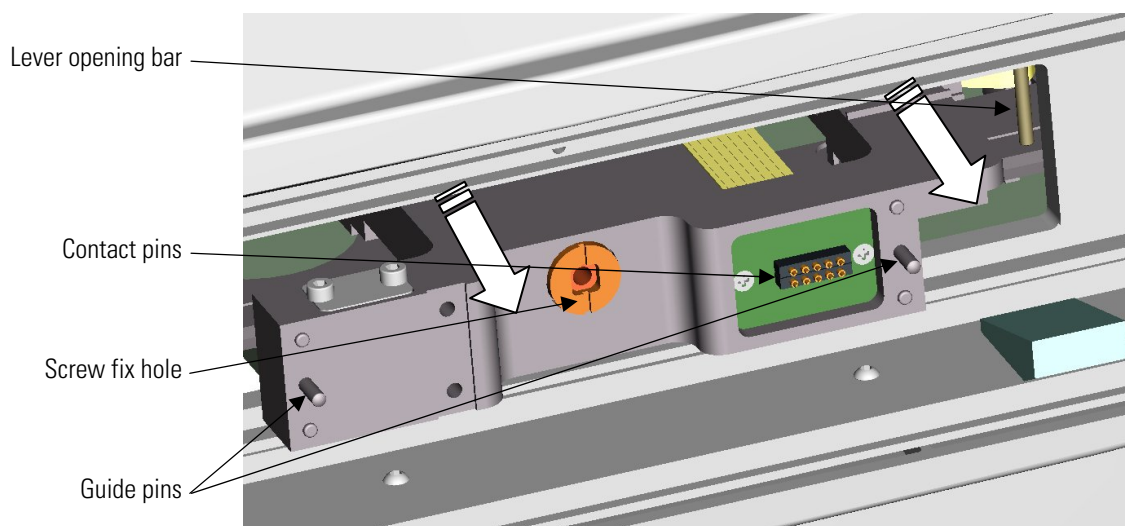

Figure 3-31. Tray holder
2. Gently move the tray holder to the front of the instrument by hand (Figure 3-31).
4. When you install the tray into the instrument, make sure the positioning lever is first pushed to the left of the lever opening bar (Figure 3-31). Ensure that the two guide pins located on both sides of the tray holder (Figure 3-31) are inserted into the tray.
The contact pins, where the electrical contacts of the incubator reside, enable contact between the universal tray and the tray holder (Figure 3-31).